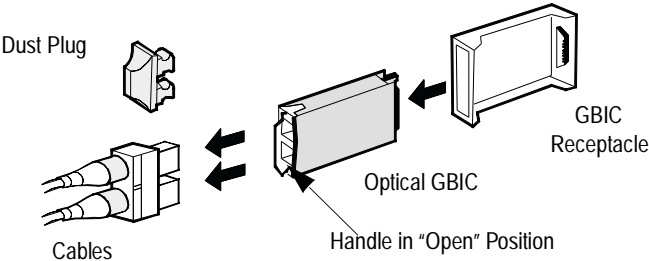

Figure 5. Removing the Optical GBIC Module
- a If you are using the IBM optical GBIC, flip the bar of the GBIC to the OPEN position and pull to remove. See Figure 5 on page 10.